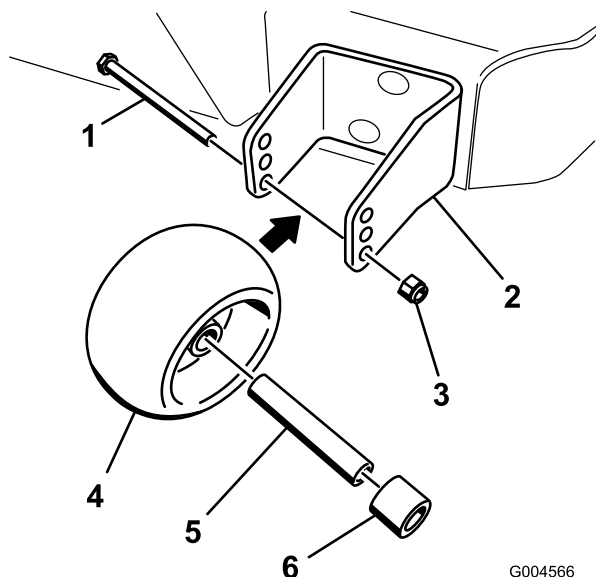

Figure 17
3. After adjusting the height-of-cut, adjust the rollers by removing the flange nut, bushing, spacer, and bolt (Figure 17).
5. Install the flange nut bushing, spacer, and bolt. Torque to 40-45 ft-lb (54-61 N•m) (Figure 17).